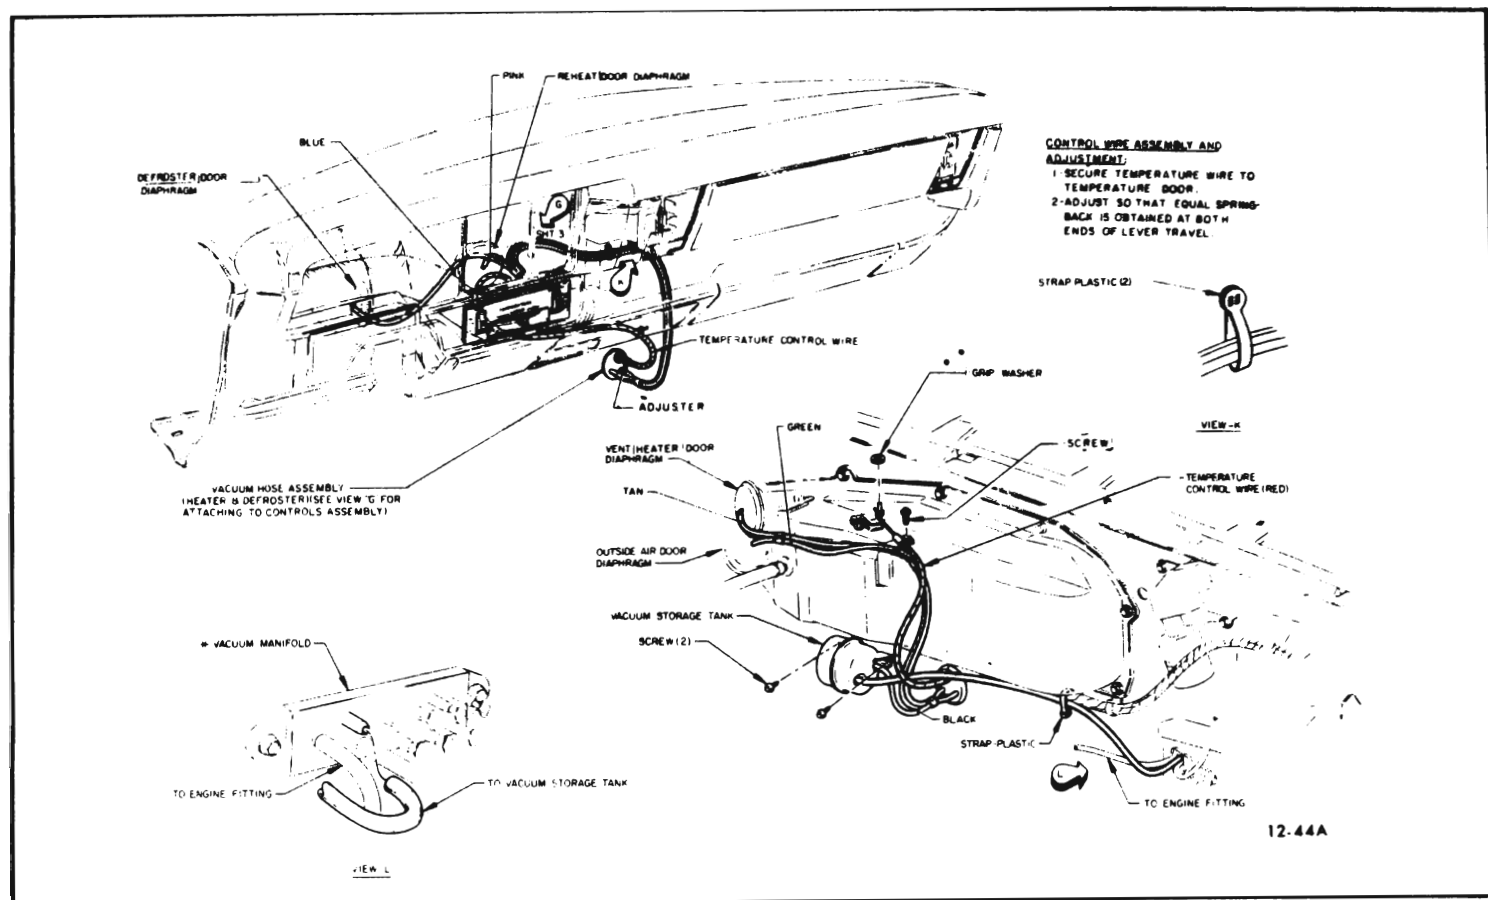
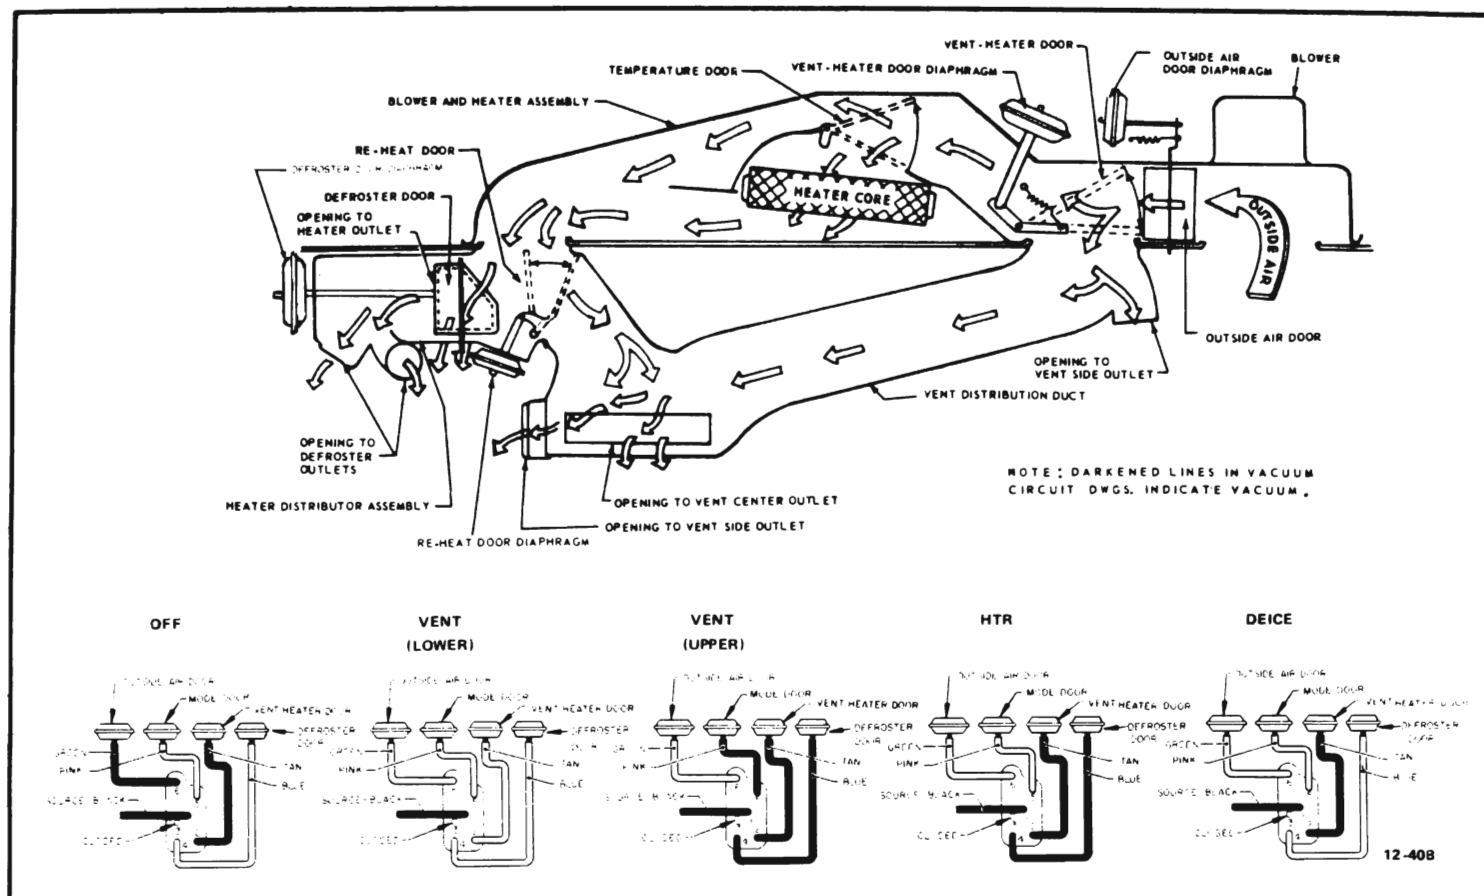

Figure 12-23 Vacuum Hose and Control Cable Installation
Figure 12-25 Heater System Air Flow
froster door and reheat door and diaphragm (see Figure 12-22); (3) the vent distributor duct; and (4) the instrument panel control assembly (see Figure 12-23).
The flow of air in the heater system is shown in Figure 12-25. Air enters the plenum chamber thru an opening forward of the windshield.
2. **TEMPERATURE Lever** - This lever regulates the position of the temperature door (see Figure 12-25) thru action of a control cable (see Figure 12-23). The TEMPERATURE lever is connected by a control wire to the temperature door on the heater assembly, and regulates the ratio of mixture between heated and unheated air, hence the temperature of the air. When the TEMPERATURE lever is positioned fully to the left, the temperature door is fully closed and prevents air flow through the heater core. When the TEMPERATURE lever is positioned midway in its range of travel, the temperature door is moved in proportion to allow more outside air to flow through the heater core and hence be warmed. When the TEMPERA-
a. **"OFF" Position** - In this position vacuum is applied to the outside air door and reheat door diaphragms to hold these doors closed. See Figure 12-25.
4. Disconnect temperature door control cable. See Figure 12-23.
5. Disconnect vacuum hoses attached to outside door and vent-heater door vacuum diaphragms. See Figure 12-23.
Insufficient Heating	<p>Kinked vacuum hoses or defective SELECTOR switch - Check that there is no vacuum applied to diaphragm of outside air door, and that vacuum is applied to diaphragm of vent-heater door (see Figure 12-25) when SELECTOR switch is in "HTR" position.</p> <p>Sticking outside air door - Disconnect door lever spring and move door lever to check for smooth operation.</p> <p>Temperature door does not open sufficiently - Check operation and adjustment of door and TEMPERATURE switch (refer to paragraph 12-22).</p> <p>Check for dirt particles in engine thermostat.</p> <p>Insufficient coolant or plugged heater core - Feel and compare temperature of heater core inlet and outlet pipes. Both hoses should be hot and approximately same temperature.</p> <p>Check for dislodged diaphragm in flow control valve.</p>
Insufficient Air thru Instrument Panel Outlets	<p>Kinked vacuum hoses or defective SELECTOR switch - Check that no vacuum is applied to either outside air or vent-heater diaphragms when SELECTOR wheel is in "VENT" position (see Figure 12-25).</p> <p>Sticking outside air and/or vent-heater doors - Disconnect door lever springs and move door lever to check for smooth operation.</p> <p>Defective vent-heater diaphragm - Substitute new diaphragm.</p>